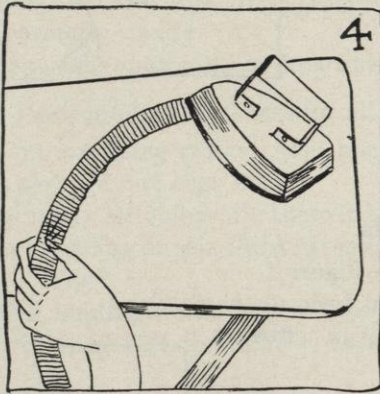

FIG. 4.
- As you stretch, press this outer edge circular (see Figure 4).